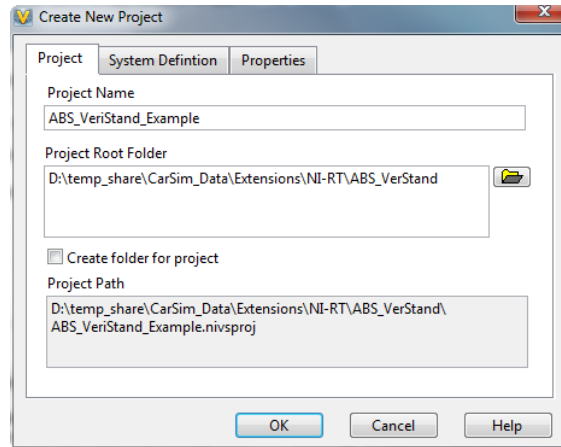

Figure 31. VeriStand New Project Creation Window.
2. Click **New NI VeriStand Project**. This will open the Create New Project window (Figure 31).